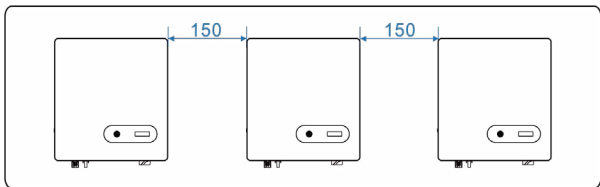
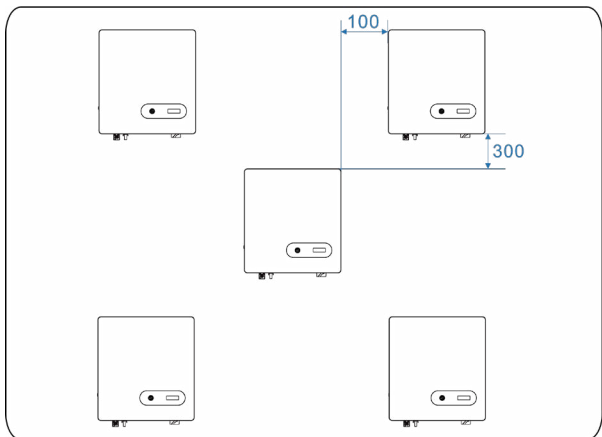

Figure 4.5 Installation along the same line (unit: mm)
Figure 4.6 Installation in triangle mode (unit: mm)
c. When installing multiple inverter, install them along the same line (as shown in **Figure 4.5**) if sufficient space is available, and install them in triangle mode (as shown in **Figure 4.6**) or in stacked mode (as shown in **Figure 4.7**) if no sufficient space is available. The installation modes ensure sufficient space for installation and heat dissipation.